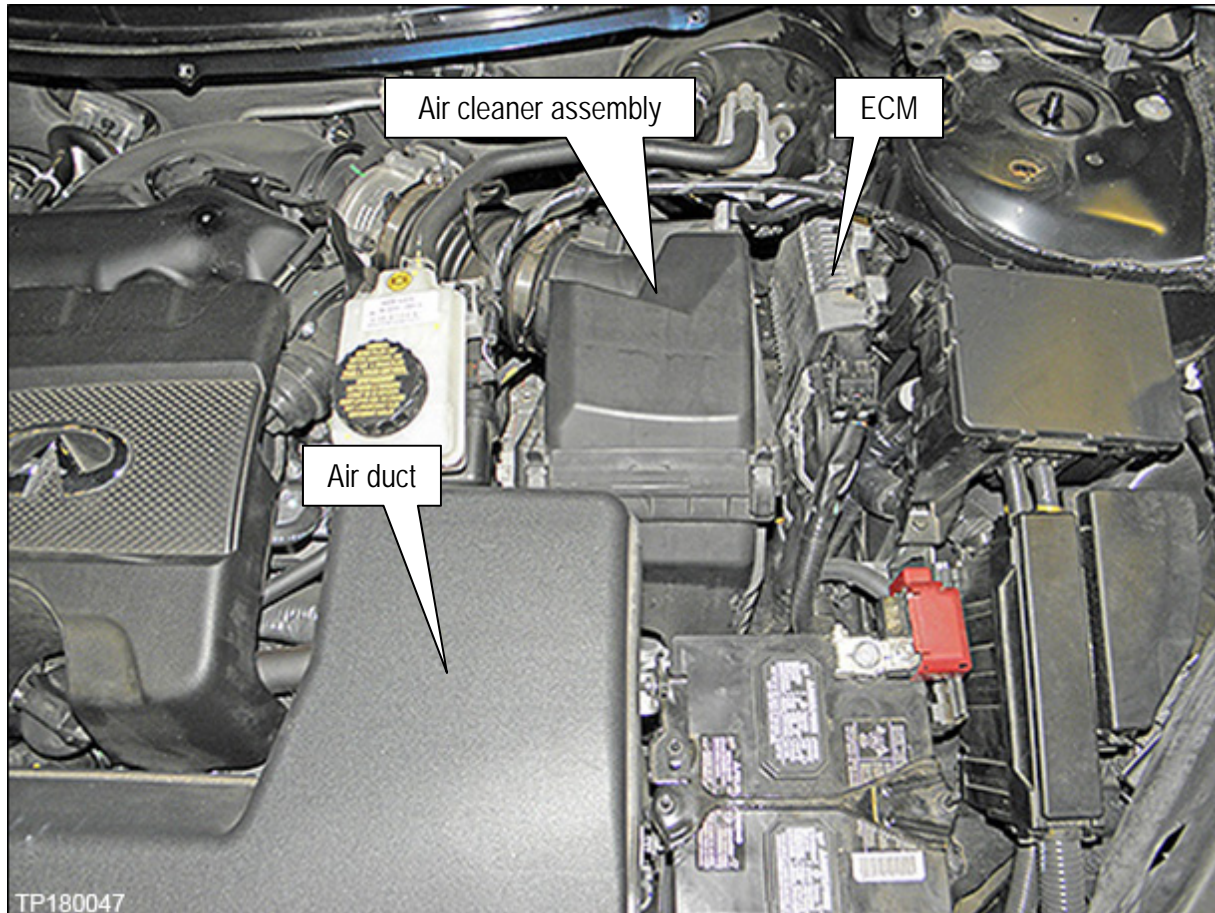

Figure 21
24. Remove the front air duct and the air cleaner assembly (Figure 21).